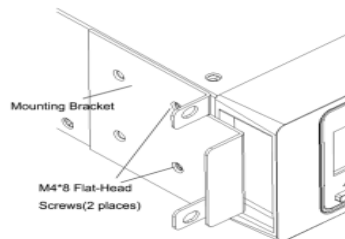

Figure 2: Installing the mounting brackets
- g) Align the mounting brackets with the screw holes on each side of the UPS and fix with the supplied M4x8 flat-head screws (see Figure 2).